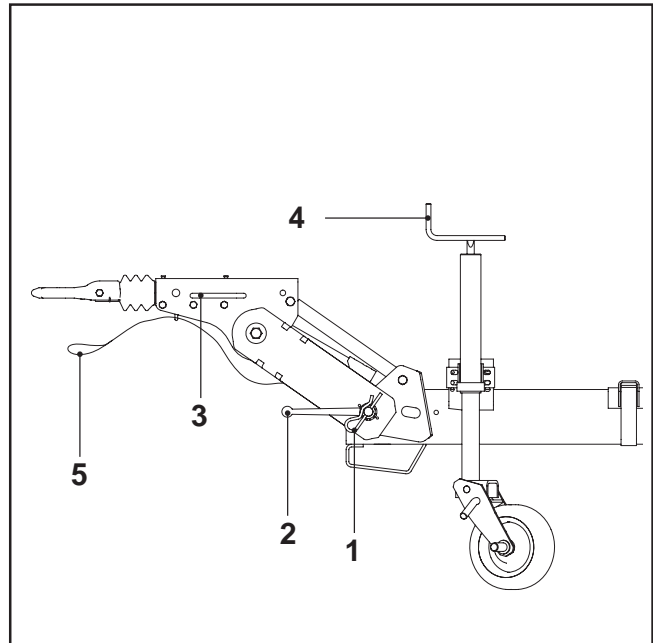

FIG.05
- Adjust the drawbar's height only using the handle (FIG.05-REF.03).
- Remove the split pin (FIG.05-REF.01).
- Loosen the handle (FIG.05-REF.02) and turn it until it stops.